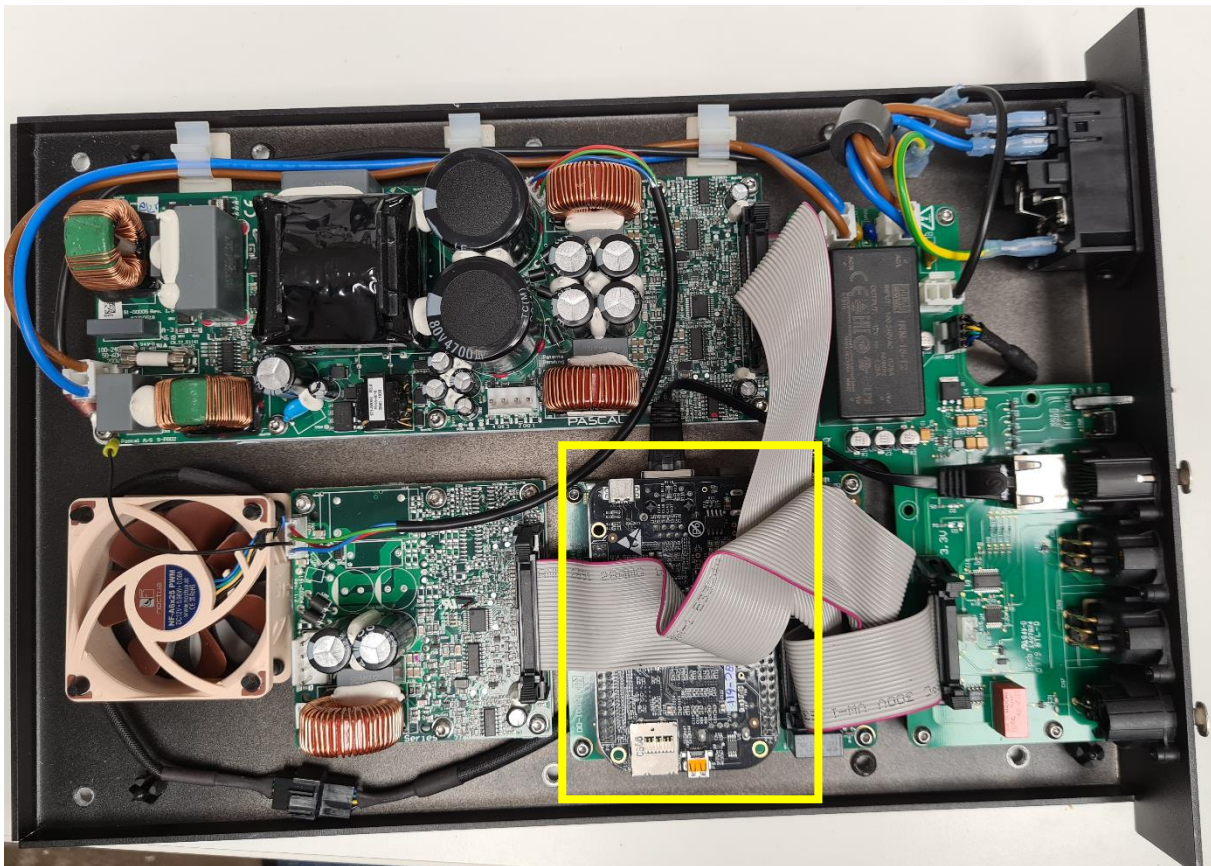

Figure 2 - Electronics panel
4. When all 3 cables are disconnected, you should be able to remove the bottom panel safely. It should look something like Figure 2.
1. The Beaglebone Black is the module that is connected with a ethernet-patch cable (indicated in yellow in Figure 2). It is located on the DSP PCB (the square looking PCB). Before you can remove the Beaglebone, you would have to disconnect a few cables: